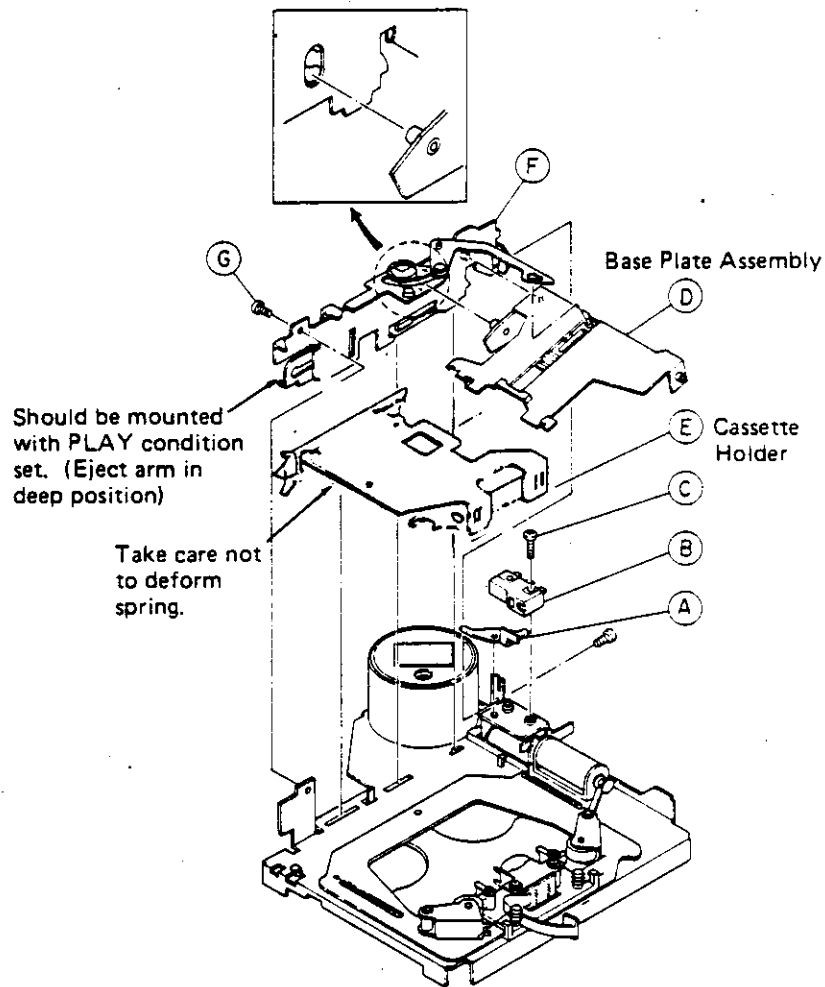

FIGURE 4-26. CASSETTE HOLDER & BASE PLATE
- c. Mount the cassette holder assembly E on the base plate assembly D (see Figure 4-26).
- f. Place the chassis vertically and fix with screw G (see Figure 4-26).